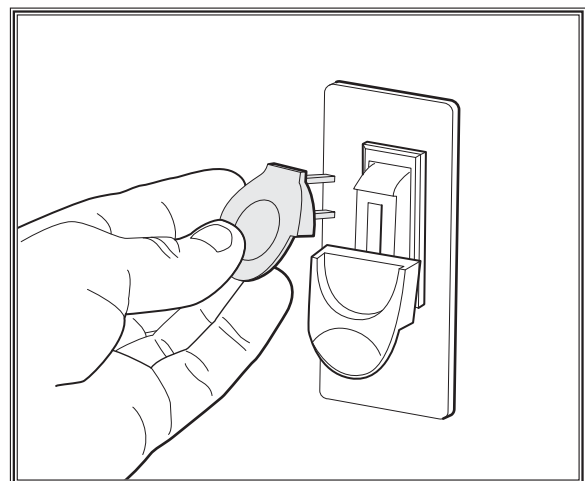

Figure 14. Removing switch key from paddle switch.
7. Remove ON/OFF switch disabling key (see Figure 14).